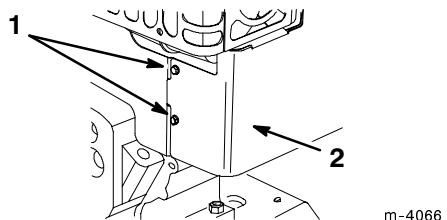

Figure 18
If you operate the engine when the air temperature is above 40°F (4°C), remove the carburetor heater box (Fig. 18).
1. Disconnect the wire from the spark plug and make sure that the wire does not contact the plug (Fig. 18).
4. Remove two Phillips screws that secure the carburetor heater box in place (Fig. 18).